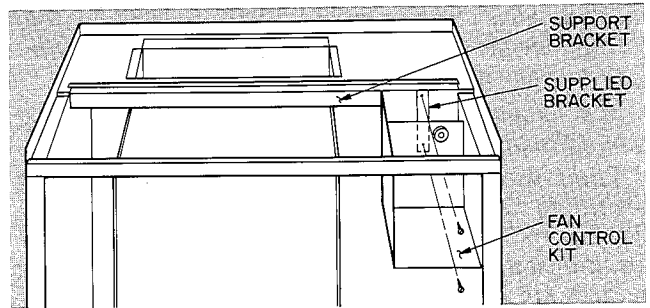

Fig. 12 — Humidity Control Kit Installation (28TQ Applications Only)
Step 7 — Install Accessory Humidity Control Kit (for 230-v, 28TQ application). See Fig. 12. Attach supplied bracket to rear of control box using hole closest to strain relief. Place control box in upper right-hand corner of 40FS fan section. Secure control box by fastening bracket supplied to support bracket of fan section.